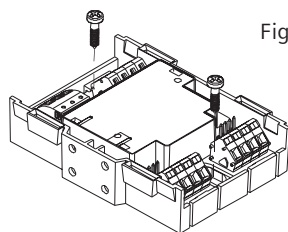

Fig. 4.5.1
- Installation directly in a switching cabinet or a control unit: mount the module on an even surface (Fig. 4.5.1).
2. Fix the module with two screws (M4x15) (Fig. 4.5.1). Distance between holes: 63.5 ± 1.0 mm